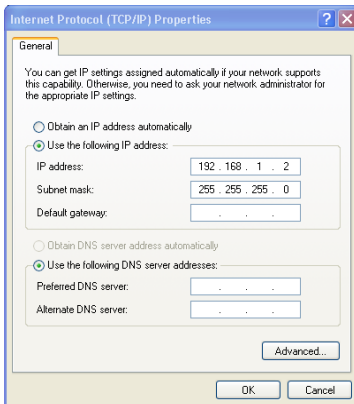

Figure 35: Internet Protocol (TCP/IP) Properties Window
6. Select **Use the following IP Address**, and fill in the details as shown in Figure 35. You can use any IP address in the range 192.168.1.1 to 192.168.1.255 (excluding 192.168.1.39) that is provided by your IT department.